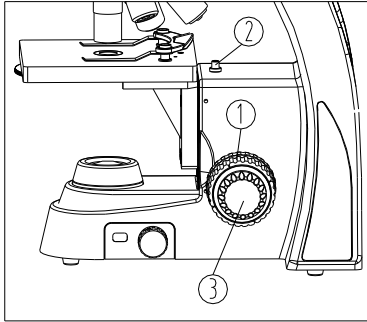

Fig. 9
2. Observe with your left eye and the left eyepiece (binocular and trinocular heads only). Rotate the coarse focusing knob ① until the specimen outline appears in the view field (see Fig. 9).
3. Rotate the fine focusing knob ③ until clear details are observed.